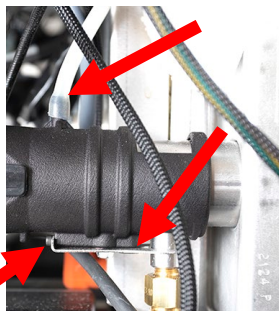

Figure 12
16. Carefully disconnect the pressure switch hose (see Figure 12).
18. Pull the split bracket, (see Figures 12 & 13) away from the gas line the fan assembly sits on.